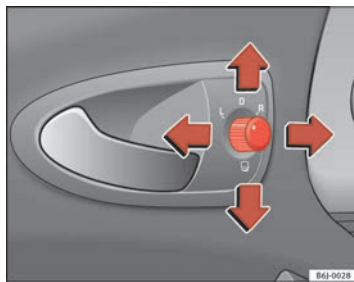

Fig. 66 Controls of exterior mirrors
1. Turn knob ⇒ fig. 66 to position **L** (left exterior mirror).
- Turn the control ⇒ page 104, fig. 66 to position  to fold in the exterior mirrors. You should always fold in the exterior mirrors if you are driving through an automatic car wash. This will help prevent damage.